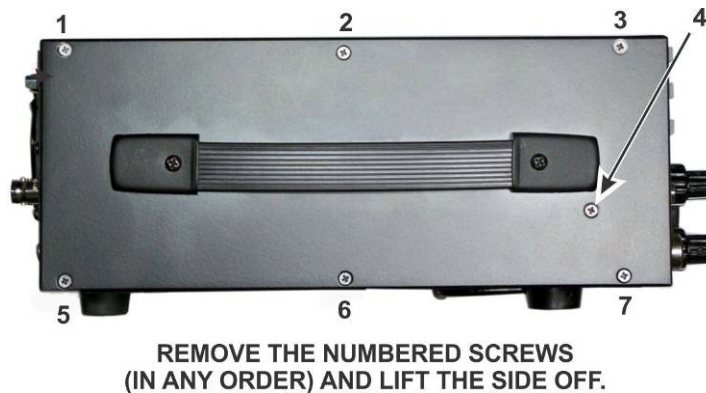

Figure 96. Removing the Left Side Panel.
- Remove the left side panel as shown in Figure 96.